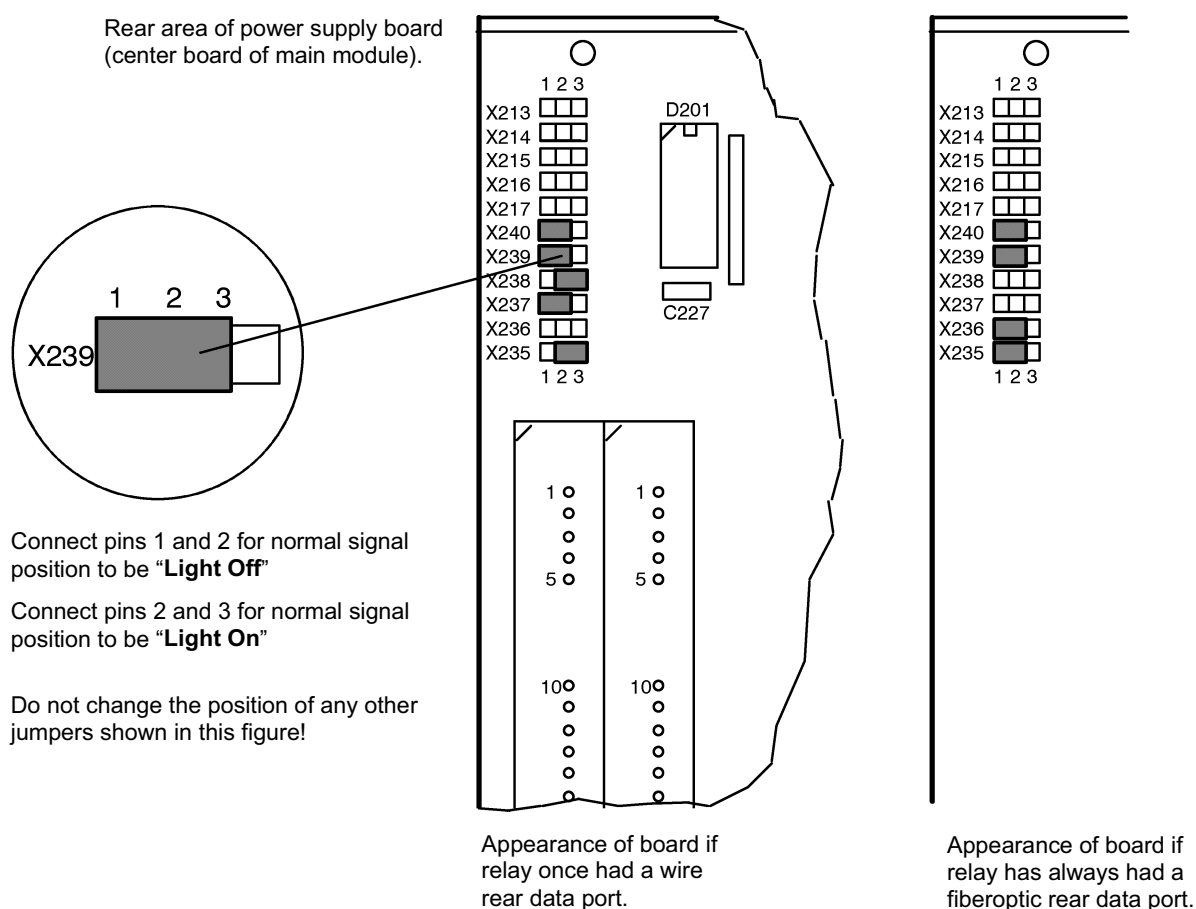

Figure 17.20 Jumper Location for Setting Normal-Signal Position of Fiberoptic Data Port
2. Change the jumper location to the appropriate position, as shown in Figure 17.20.